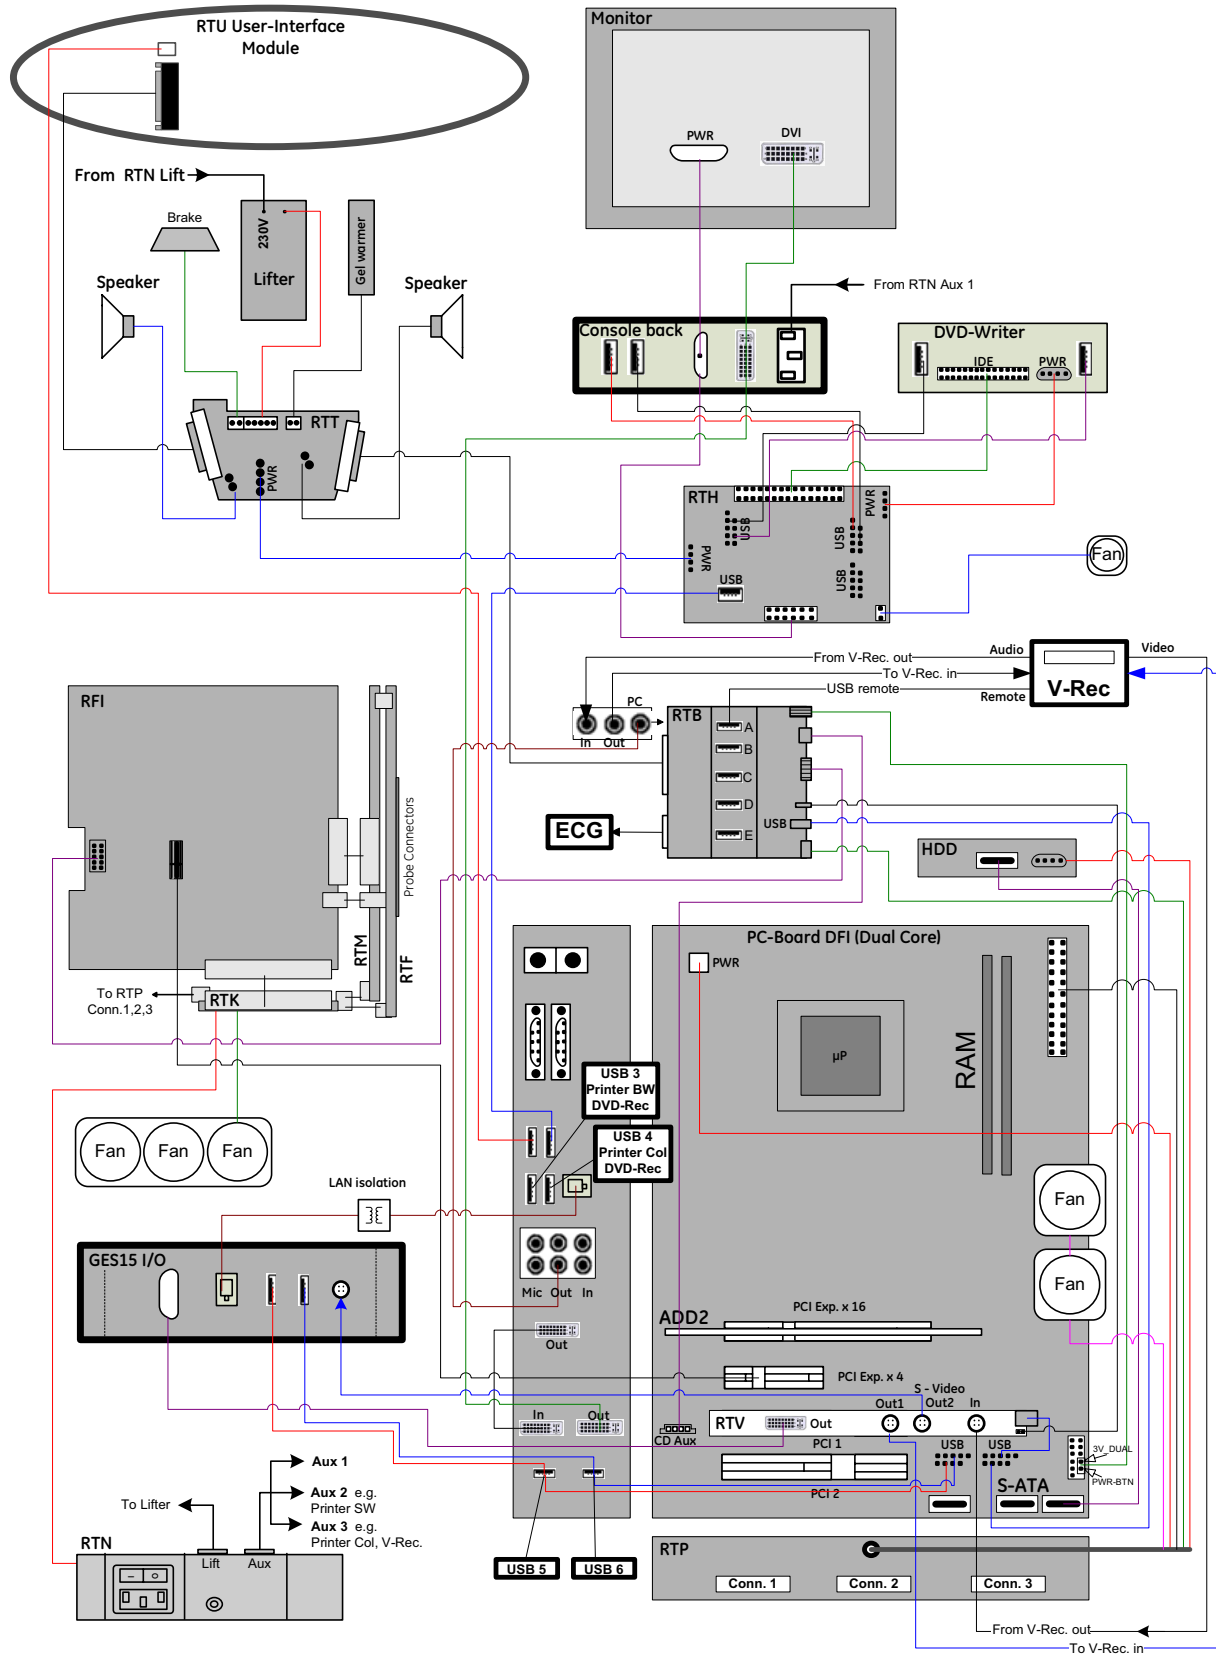

Figure 5-15 Voluson E6 (BT09): Internal I/O - DFI Dual-core PC-Motherboard
- “DFI Dual-core” PC Motherboard is installed, see: Figure 5-15 on page 5-39.